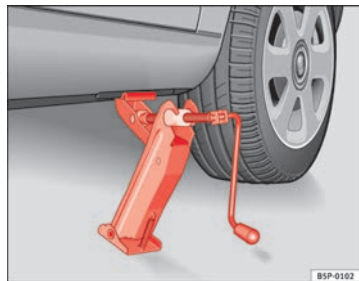

Fig. 173 Fitting the jack
- Align the jack so that the arm of the jack fits around the rib under the door sill and the movable base plate of the jack is flat on the ground ⇒ fig. 173.